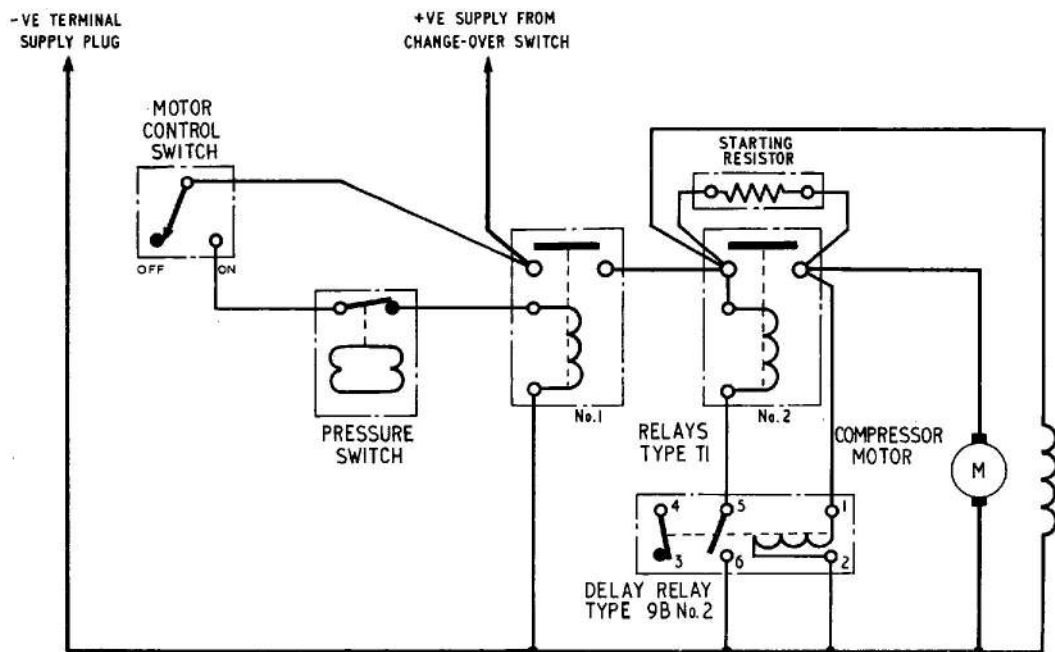

Fig. 7. Motor control circuit (theoretical)
13. This paragraph should be read in conjunction with the theoretical motor control circuit diagram given in fig. 7. When the engine has warmed up and the generator output has reached its normal value of 28V. the compressor motor may be started as follows :—